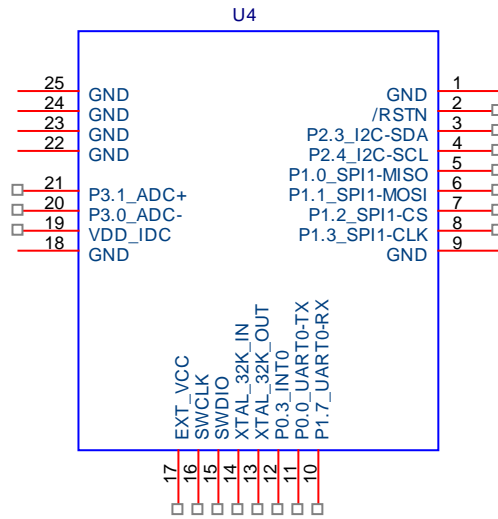

Figure 1 PCB Antenna pin out
1.2	Change transparent transfer baud rate to 115200. Connect Pin19 to Vin in figure 1 and 7.